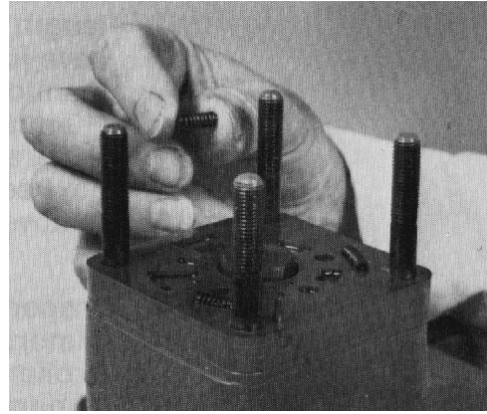

Figure 35
14. Remove three springs from the isolation manifold pockets (Fig. 35).